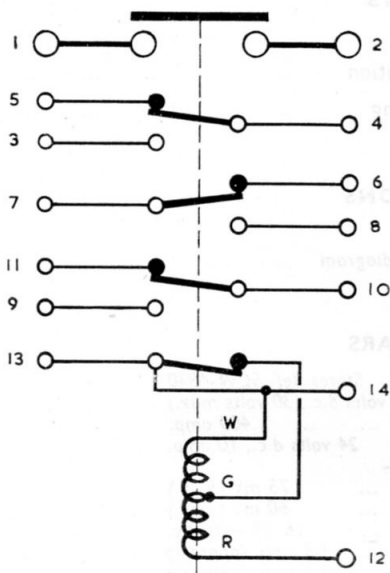

Fig. 2. Circuit diagram
3. A circuit diagram of the switch is given in fig. 2. The main terminals are suitable for use with Pren cable lugs, and the auxiliary and operating terminals for bared Pren leads. Insulation barriers and covers protect the terminals from accidental short-circuit; the terminals are so arranged that the contactor can be installed and connected without the removal of the main cover.